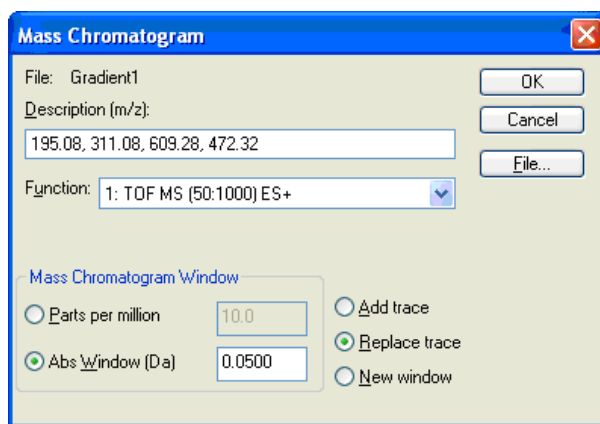

Figure 65 - Mass chromatogram parameters
3. For each injection, create four extracted mass chromatograms (using the expected masses in Table 9) and a window of **0.05 Da** (Figure 65).